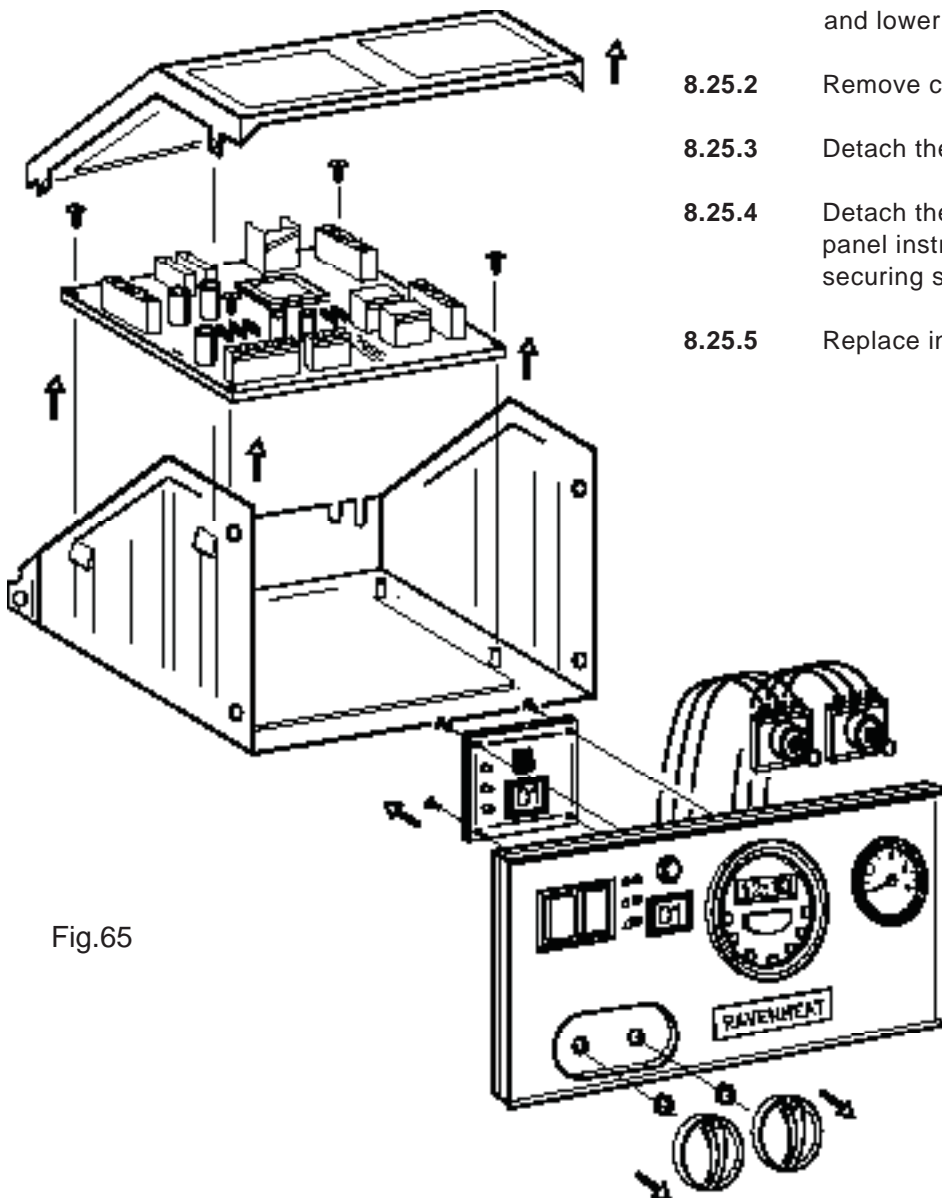

Fig.65
8.24 TO REMOVE/REPLACE CONTROL BOARD (Fig.65).
8.25 TO REMOVE/REPLACE DIGITAL DISPLAY BOARD (Fig.65).